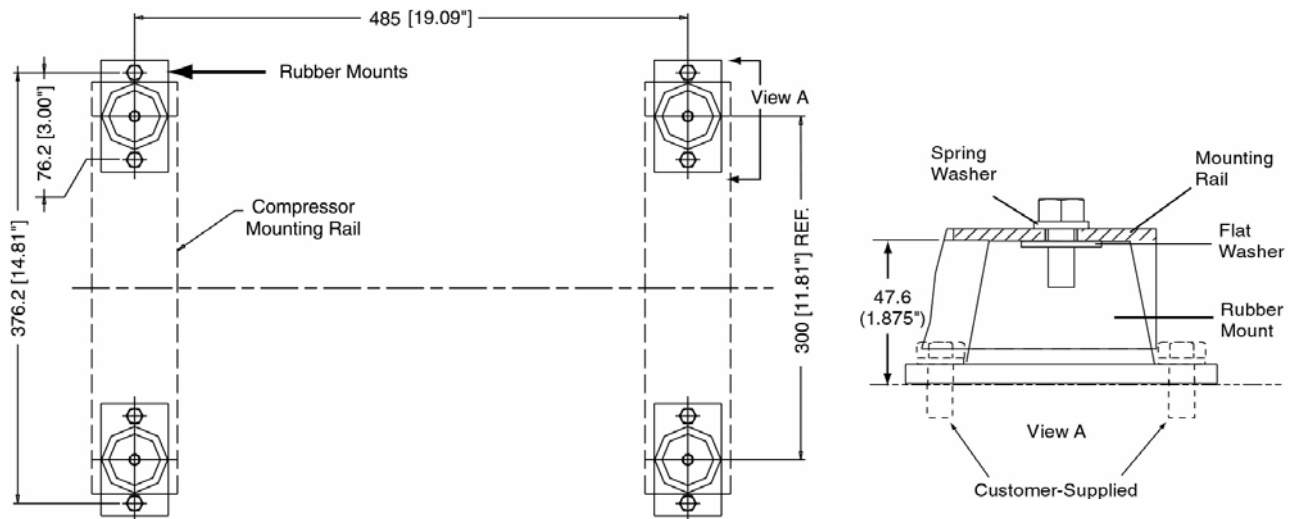

Figure 1-1 Compressor Mounting Details
1. Following the footprint dimensions given in Figure 1-1, drill two 9mm (11/32") holes in the base frame for each rubber mount.